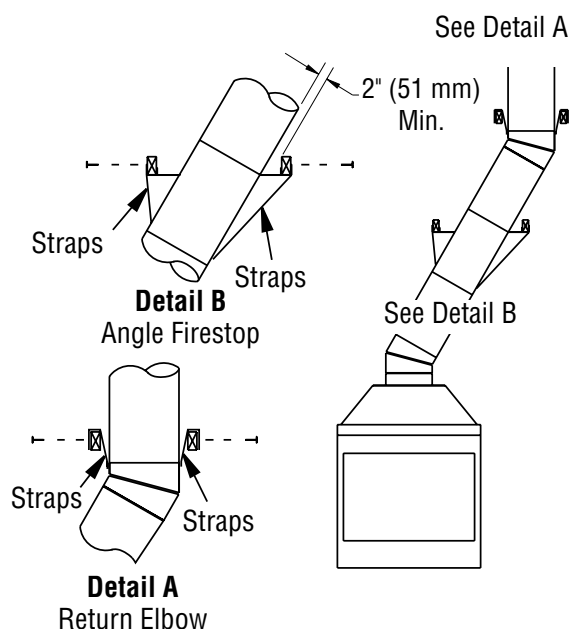

Figure 11 - Ceiling Support Pipe 12S-12DM
2. Chimney weight above offset rests on return elbow. Straps must be securely nailed to rafters or joists (see **Figure 11, details A and B**).